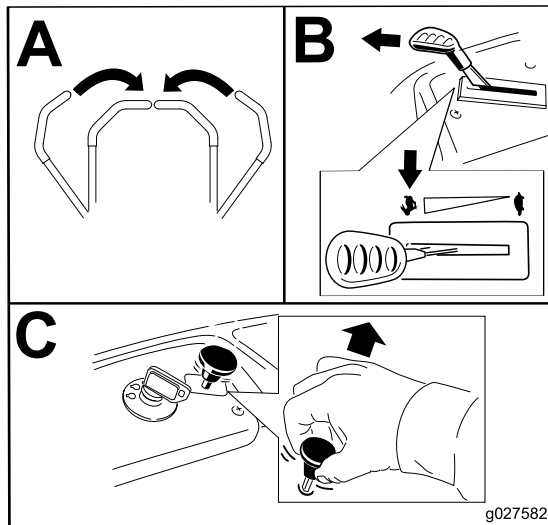

Figure 12
2. Move the throttle lever to the FAST position (Figure 12).